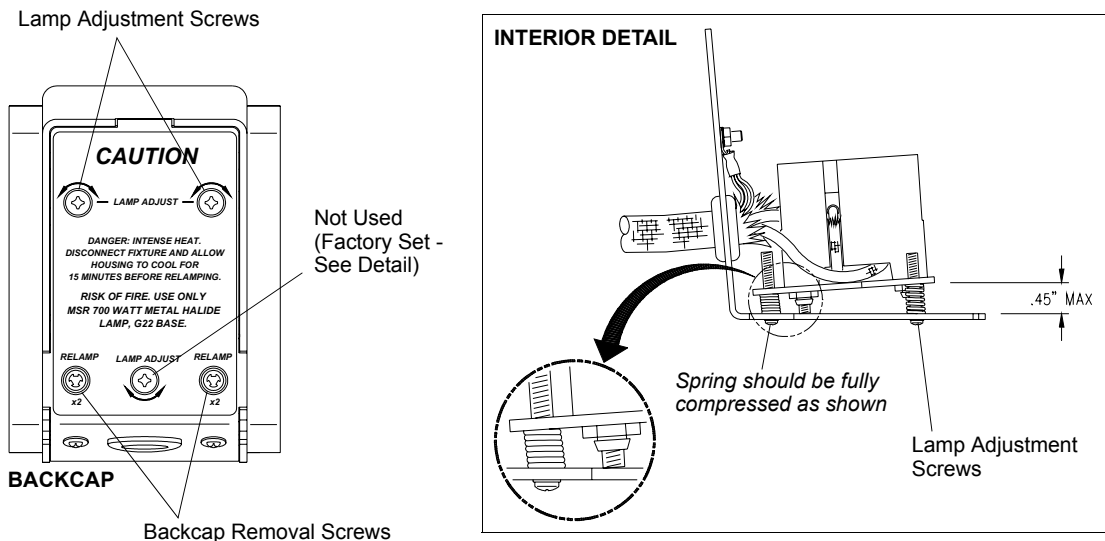

Figure 4-2: Lamp Adjustment Screws
- Step 3. At backcap, using *only* top two adjustment screws (as shown in **Figure 4-2**), align lamp so that it is centered within the reflector hole. This can be done by visually looking at the lamp from the front (while the lens is removed).